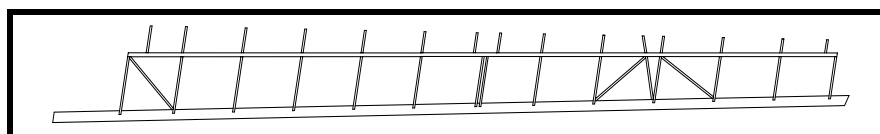

Figure 10
- ❑ Install the leading edge ribs. Use the angle guides to hold these ribs in place while gluing. See Figure 10. Check to make sure the leading edge ribs at the hinge openings will clear the hinge bases of the hinges installed on the aft wing spar—see Drawing No. 204.